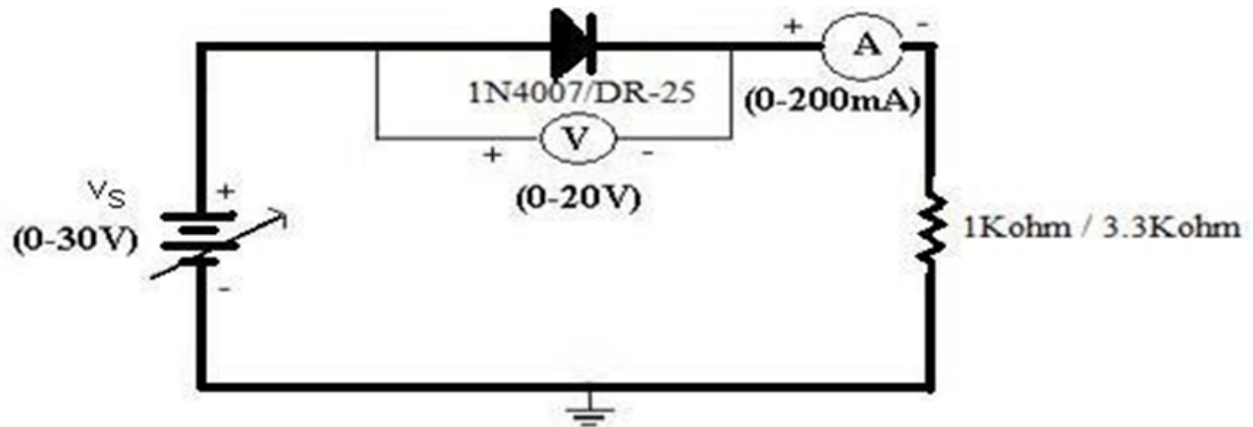

Fig. 1: Forward Bias Condition
1. Connect the components as shown in the Fig.1.